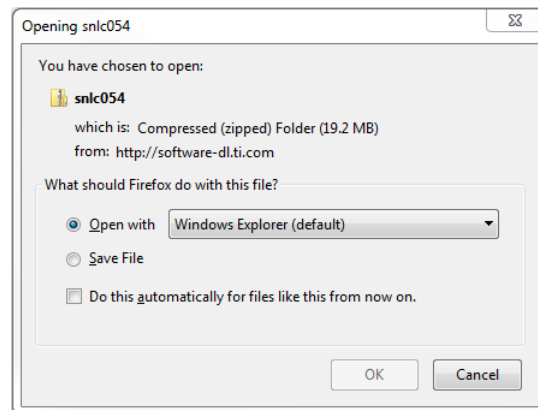

Figure 1. Dialog Box for Downloading the SigCon Architect Installer
3. You will then be directed to a download page. Select "Download." The dialog box in Figure 1 should appear. Select "Open with Windows Explorer."